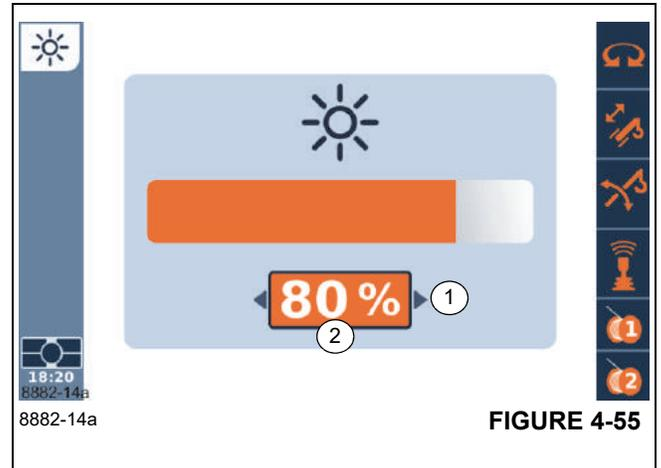

FIGURE 4-55
To set the display screen brightness, select Item (2), (Figure 4-55) and confirm.
The brightness of the display is regulated automatically by the display, depending on the ambient brightness. An arrow (1), (Figure 4-55) appears on the left and right of the percentage (2), (Figure 4-55).
The brightness of the display changes while setting. View the set value (0 to 100%) on the display (2), (Figure 4-55).